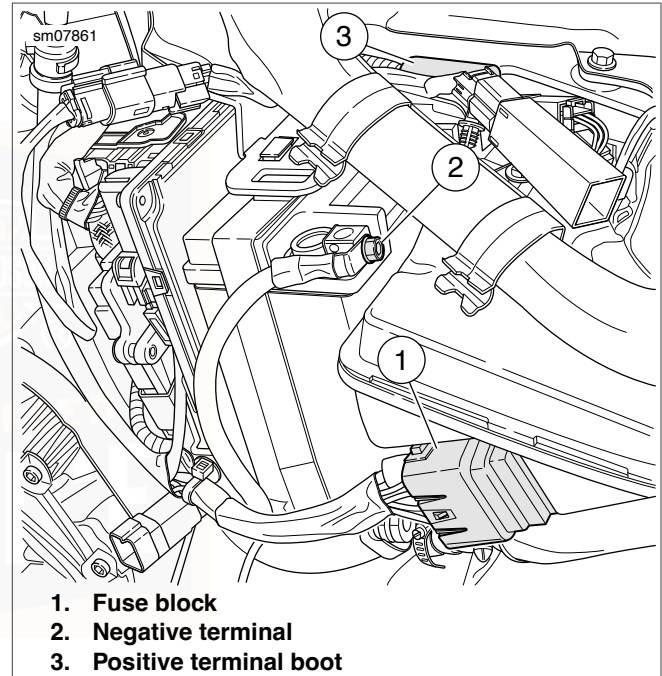
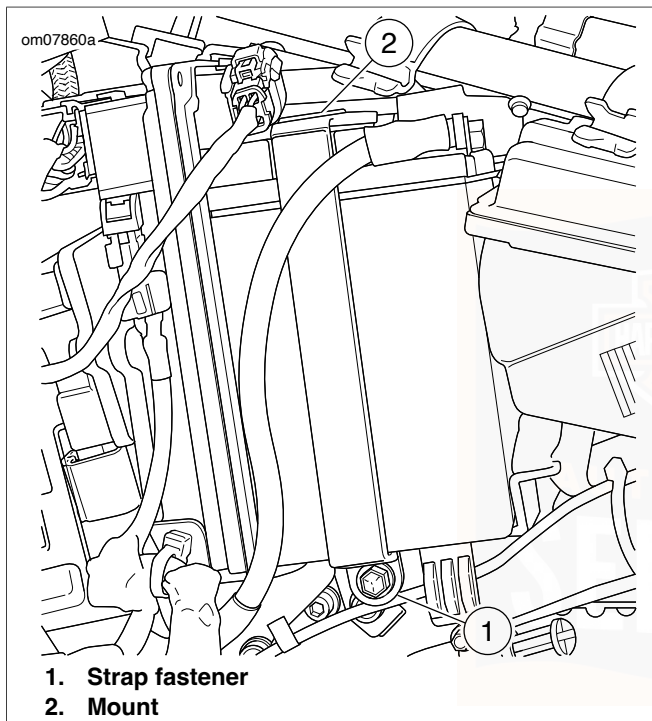

Figure 71. Battery Compartment
Figure 72. Battery Strap
4. See Figure 71. Pull fuse block (1) aside.
6. Disconnect negative battery cable at negative terminal (2).
7. Remove positive terminal boot (3) from positive battery terminal. Disconnect positive battery cable.
8. See Figure 72. Remove strap fastener (1).
9. Unhook battery strap from mount (2) on top of battery.
3. See Figure 72. Install top of battery strap to mount (2). Install strap fastener (1). Tighten to 72-96 **in-lbs** (8.1-10.8 Nm).